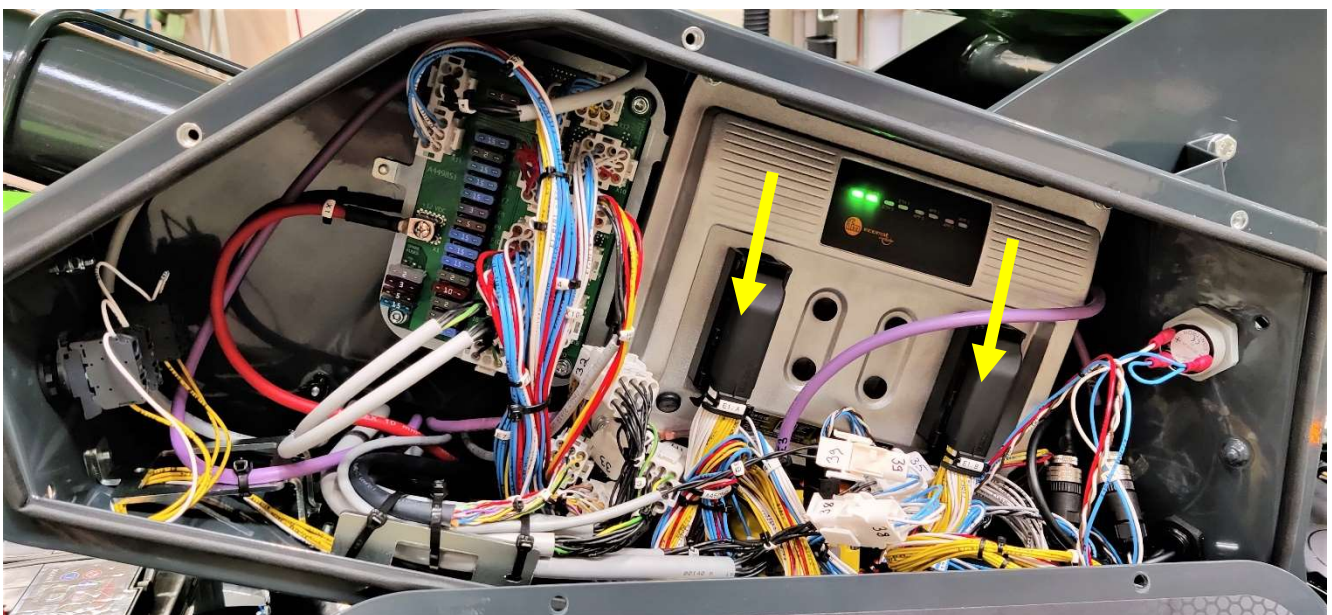

Figure 49. Connectors of the logic controller inside the lower control box
**Before welding** remove and cover the battery plus (+) and minus (-) terminals. Disconnect all connectors of the logic controllers inside the lower control box (figure 49) and upper control box. Connect the earth terminal of the welding device directly to the part to be welded. Do not touch the logic controllers or electric cables with the welding electrode or earth terminal of the welding device. Protect the logic controllers from welding spatters.